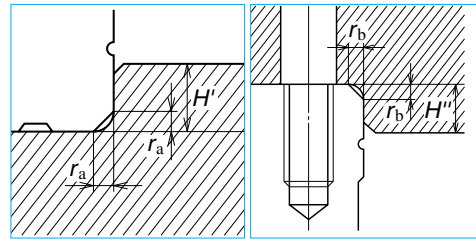

Fig. II-9-10 Shoulder for the rail datum face Fig. II-9-11 Shoulder for the ball side datum face
(1) Shoulder height of the mounting face of the machine base and corner radius r
- Fig. II-9-10, II-9-11, Table II-9-9 and II-9-10 show shoulder height of the mounting face of the machine base and the size of corner r. These figures are relevant when the linear guide is pressed to the shoulder of the bed or table (the raised section from where the mounting face begins), and horizontally secured to it.
(2) Tightening torque of the bolt